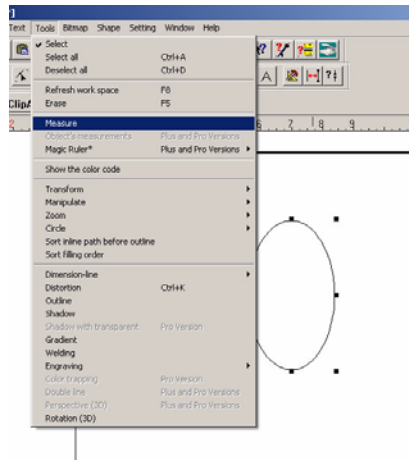

Figure 141
- 1 From the **Tools** menu, click **Measure**. See figure 141.